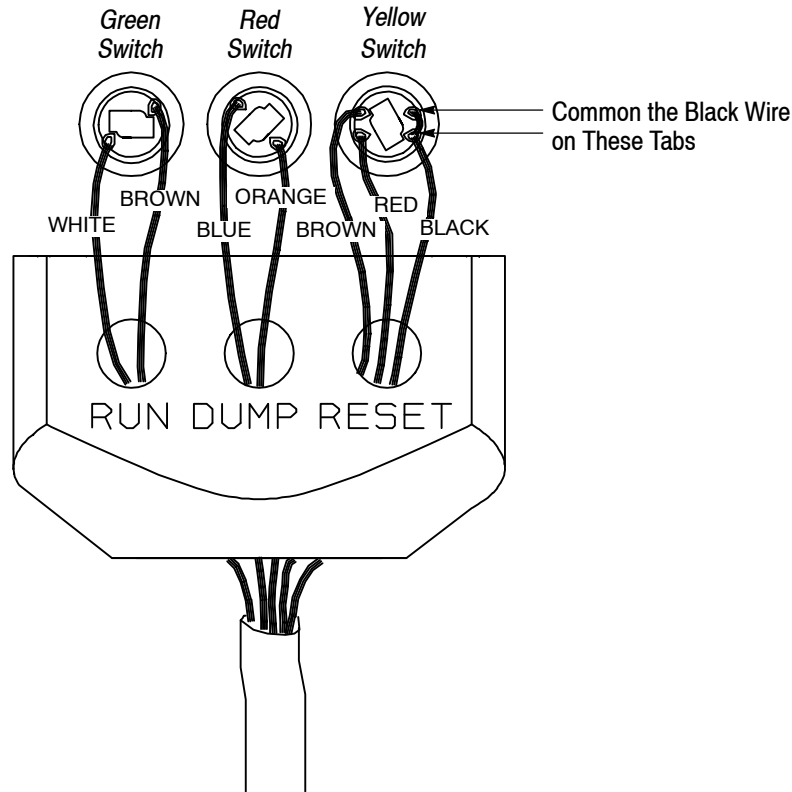

Figure 2
3.2. Assemble the Retrofit Kit (Figures 2 and 3)